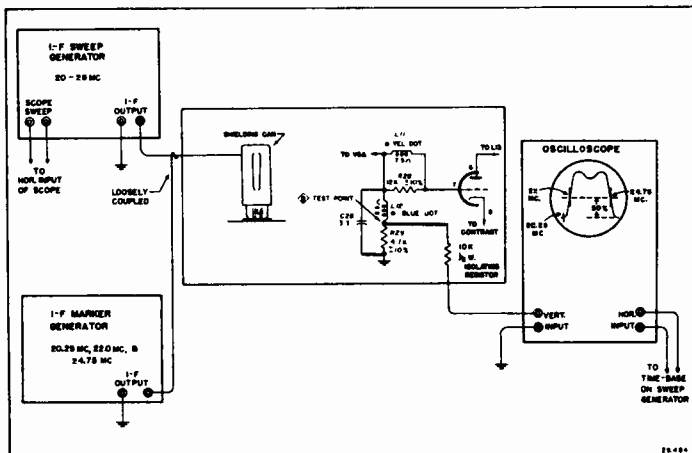

FIG. 3. I-F ALIGNMENT BLOCK DIAGRAM
4. Connect TV I-F Signal Generator through a 1500 MMF condenser to Test Point (A) of tuner unit; low side to ground. (See schematic diagram and Note #1 below.)
5. Connect negative lead of V.T.V.M. (or meter of 20,000 ohms-per-volt, or better) to 4.7K diode load resistor TEST POINT (B); positive lead to ground. (See schematic diagram.)
11. Remove Signal Generator. Feed a video I-F Sweep Generator (20 to 28MC) through loosely coupled shield of 6J6 converter tube, making sure shield is not grounded. (Refer to Fig. 3.)